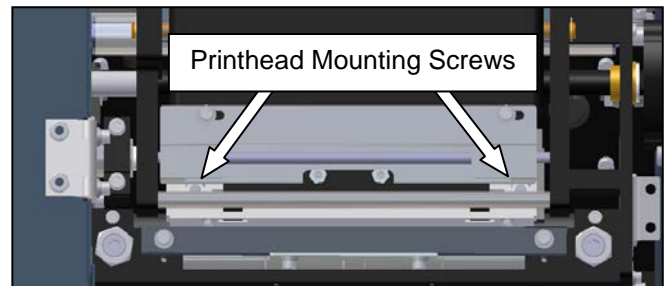

Figure 3-259. Printhead Mounting Screws
2. Locate the two screws shown in (Figure 3-259). Remove these two screws to free the printhead. Note: Once these screws are removed, the printhead will only be held by the cables.